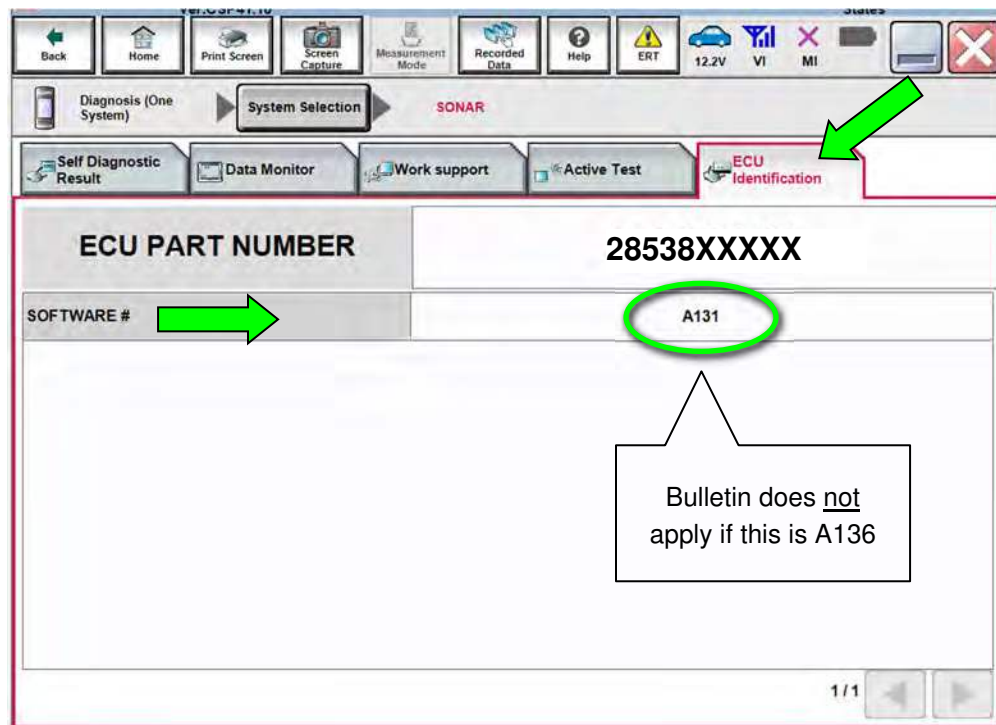

Figure 5
16. Confirm the SOFTWARE #. See Figure 5.